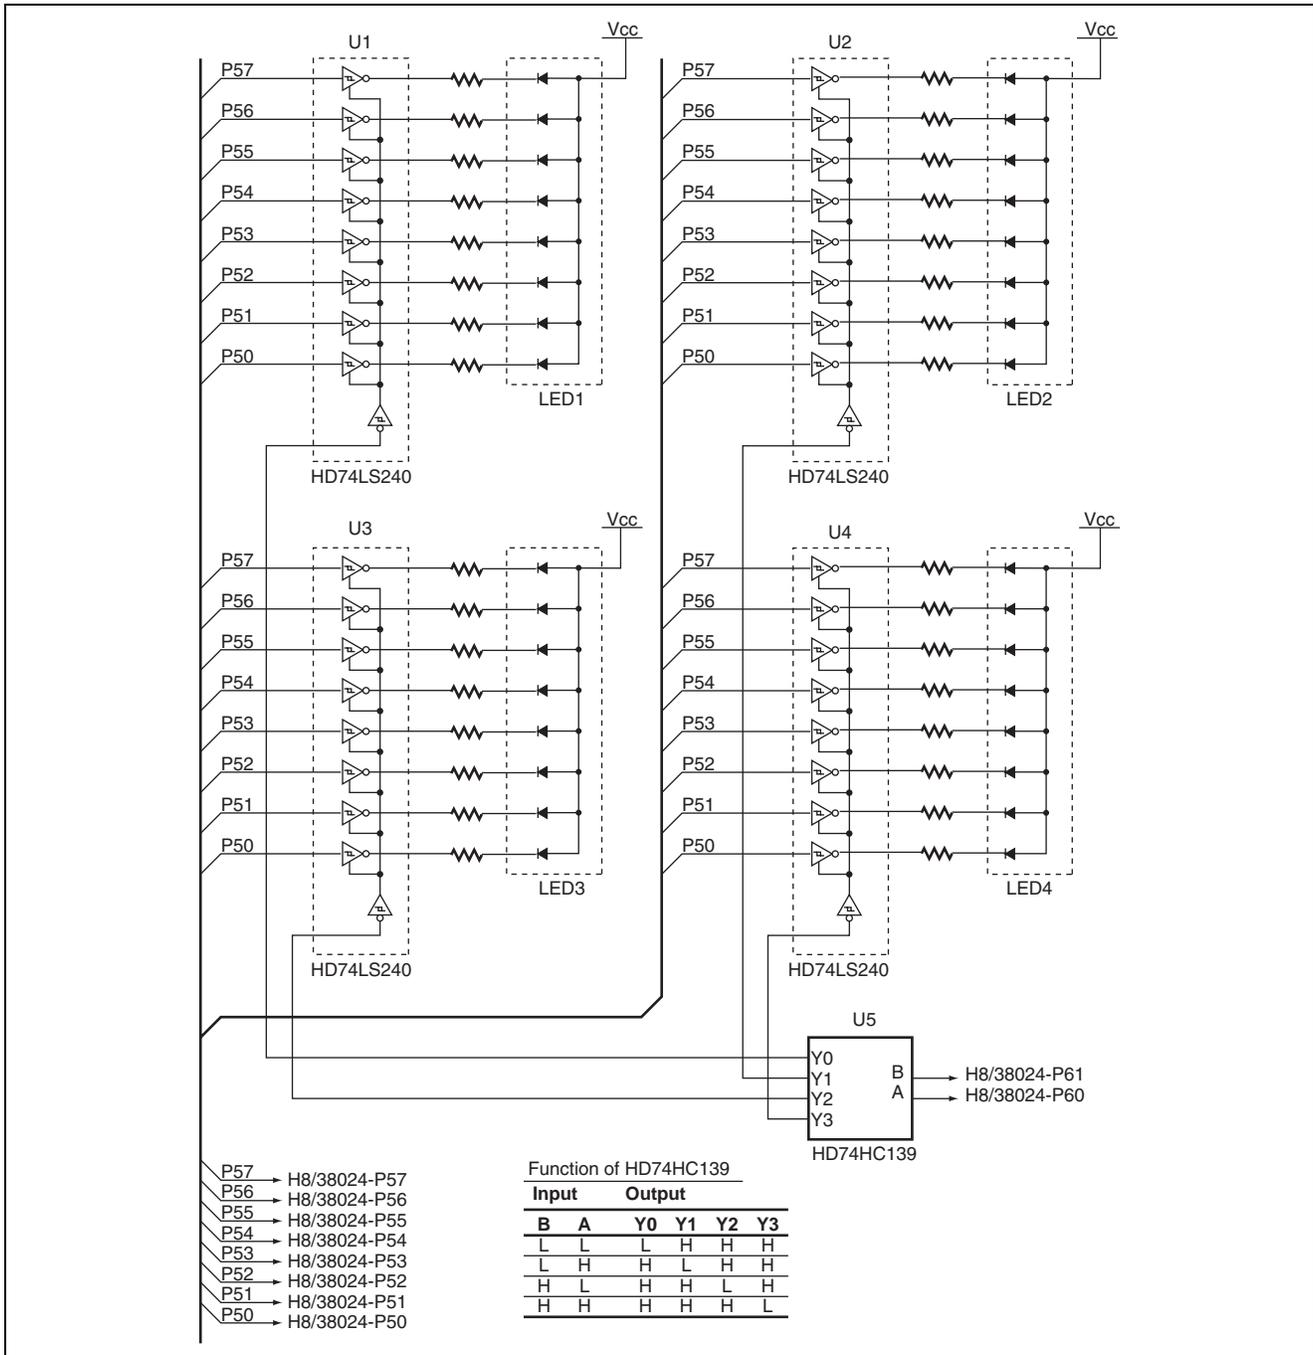

Figure 1.2 Control of 7-Segment LEDs
8. In this sample task, display on the 7-segment LED is handled by attaching port outputs to the inputs to the tri-state-output inverter drivers (HD74LS240), and the driver outputs are in turn connected to the cathodes of the 7-segment LEDs. The port outputs are connected to each of the four 7-segment LEDs to control the display on the LEDs. The enable pins of the tri-state inverter driver control switching of display on the 7-segment LEDs. The signals used to switch the display are generated by the 2-to-4-line decoder (HD74HC139), which is controlled by two port-pin outputs. Figure 1.2 shows how the 7-segment LEDs are controlled.